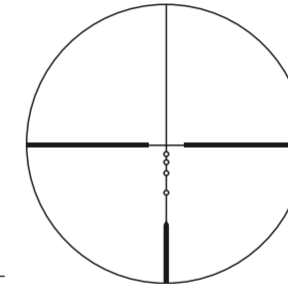

Fig. 3-1
(1) Focusing
- Look through the eyepiece with your eye positioned about 4 in. (10 cm) away from the eyepiece to see the Standard BDC reticle (Fig. 3-1) depending on your purchased product.